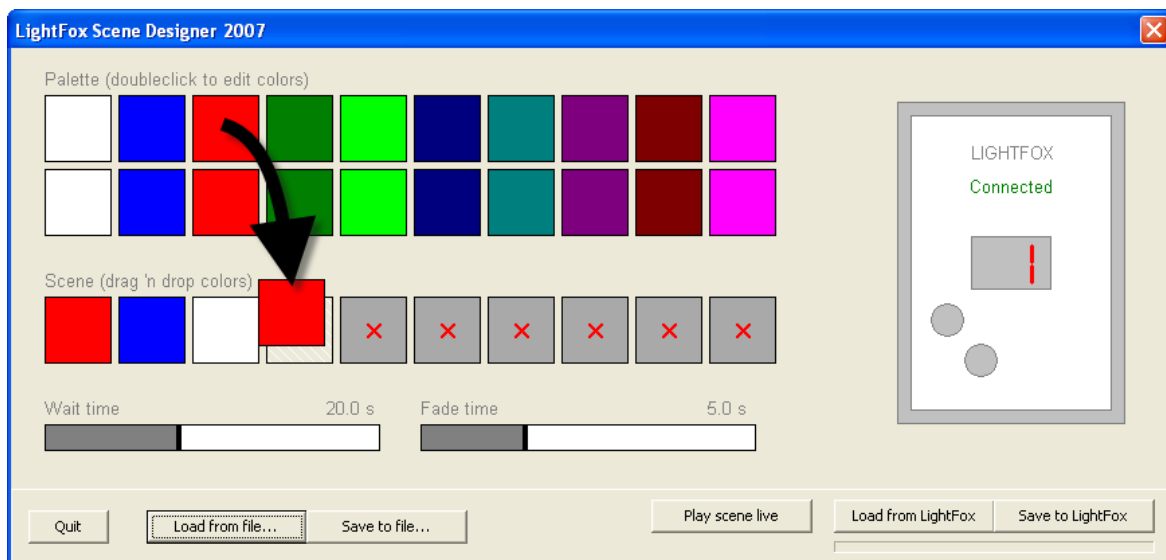

Figure 11: Adding scenes to a program
1. See Figure 11. Drag and drop one of the 20 palette boxes at the top of the window onto any of the available 10 scene boxes. Drag and drop scene boxes to reorganize the sequence of scenes.